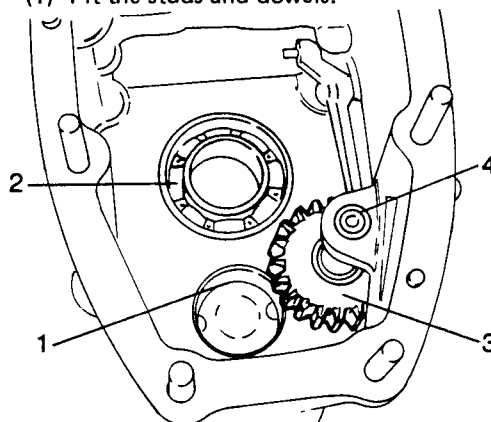

Fig H1.71
- (2) Refer to Fig H1.71. Fit the outside track (1) for the layshaft rear bearing until it butts up against the back of its housing.
- (3) Fit the mainshaft rear bearing (2) from the outside until the spring ring butts up against the casing (see Sub-sub-section H1.3, Chapter 14).
- (4) Fit the gear (3) and reverse shaft (4).
- (5) Fit the selector shafts and forks (see Sub-sub-section H1.3, Chapter 4).